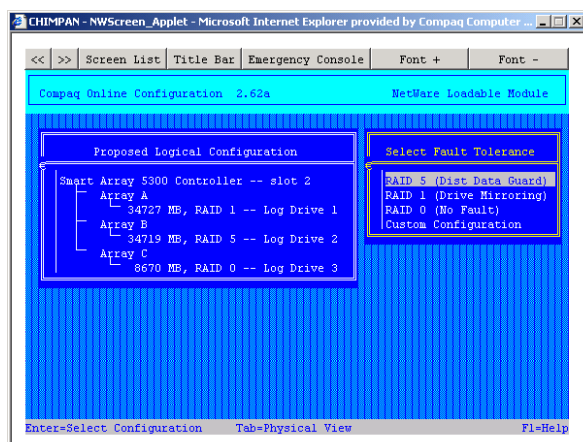

Figure 7-21: CPQONLIN auto-configuration wizard screen
- If no logical drives are configured for the controller, the auto-configuration wizard screen (Figure 7-21) is displayed.